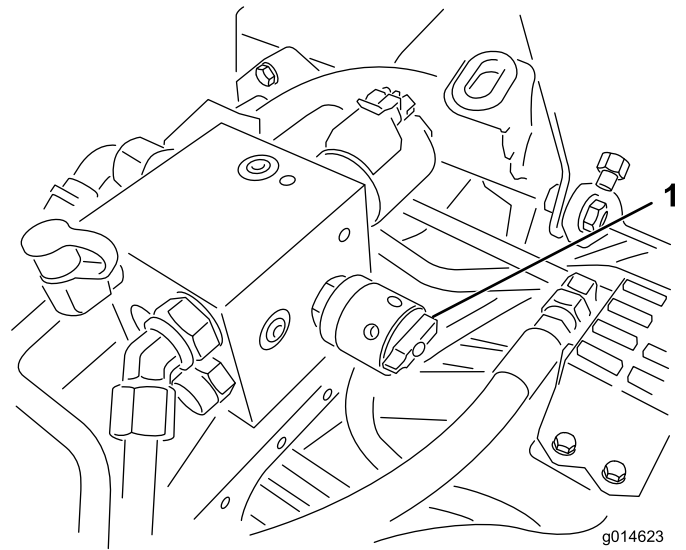

Figure 53
**Important:** If the backlap lever is not returned to the Forward (F) position after backlapping, the cutting units will not raise or function properly.
6. Rotate the reel speed control to setting 1 (Figure 53).